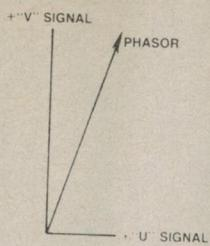

Fig.7a:
Above: for the next line, the "V" signal has been switched by 180 degrees. Compare the received phase distorted signal (2) with (2) in Fig.7a and note that the averaged resultant gives the correct colour.
the colour signal will be changed, and incorrect colours will be displayed. This occurs in the NTSC system (Fig.7a).
The burst signal is referred to as the "PAL swinging burst" because its phase changes with each transmitted line of picture information by 90 degrees, keeping it in step with the transmitted "V" signal (Fig.7a and 7b). Notice that the burst vector on the first line is shown 45 degrees above the "-U" axis line, and on the next line 45 degrees below the "-U" axis.